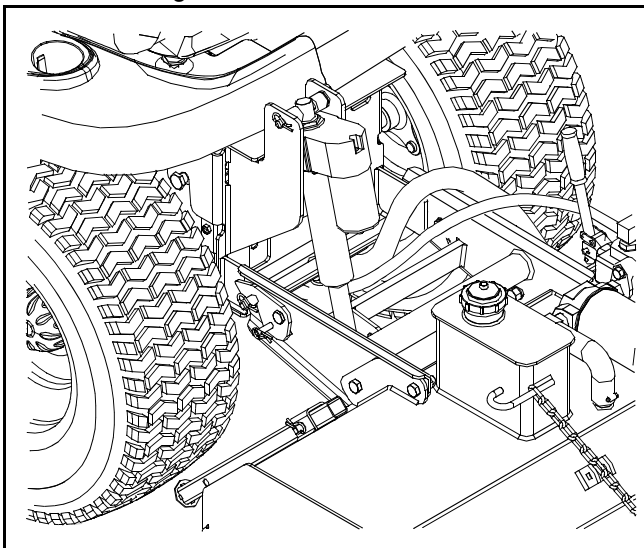
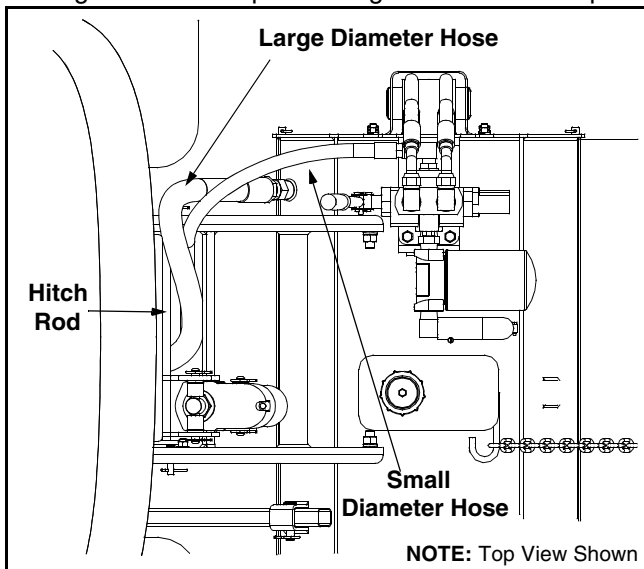

Figure 10
Figure 11
IMPORTANT: Before proceeding to the next step, make certain that both the large diameter hose and the small diameter hose are routed to the **INSIDE** of both hitch latches as illustrated in Figure 10 & Figure 11. Failure to properly route the hoses may cause the tractor tire coming in constant contact with a hydraulic hose, resulting in premature wear.
- Reinsert the clevis pins into the aligning holes in both the tiller assembly and the hitch latches and secure them with the hairpin clips removed earlier. Refer to Figure 10.
- Be certain that the hoses are routed as illustrated in Figure 11 before proceeding on to the next step.